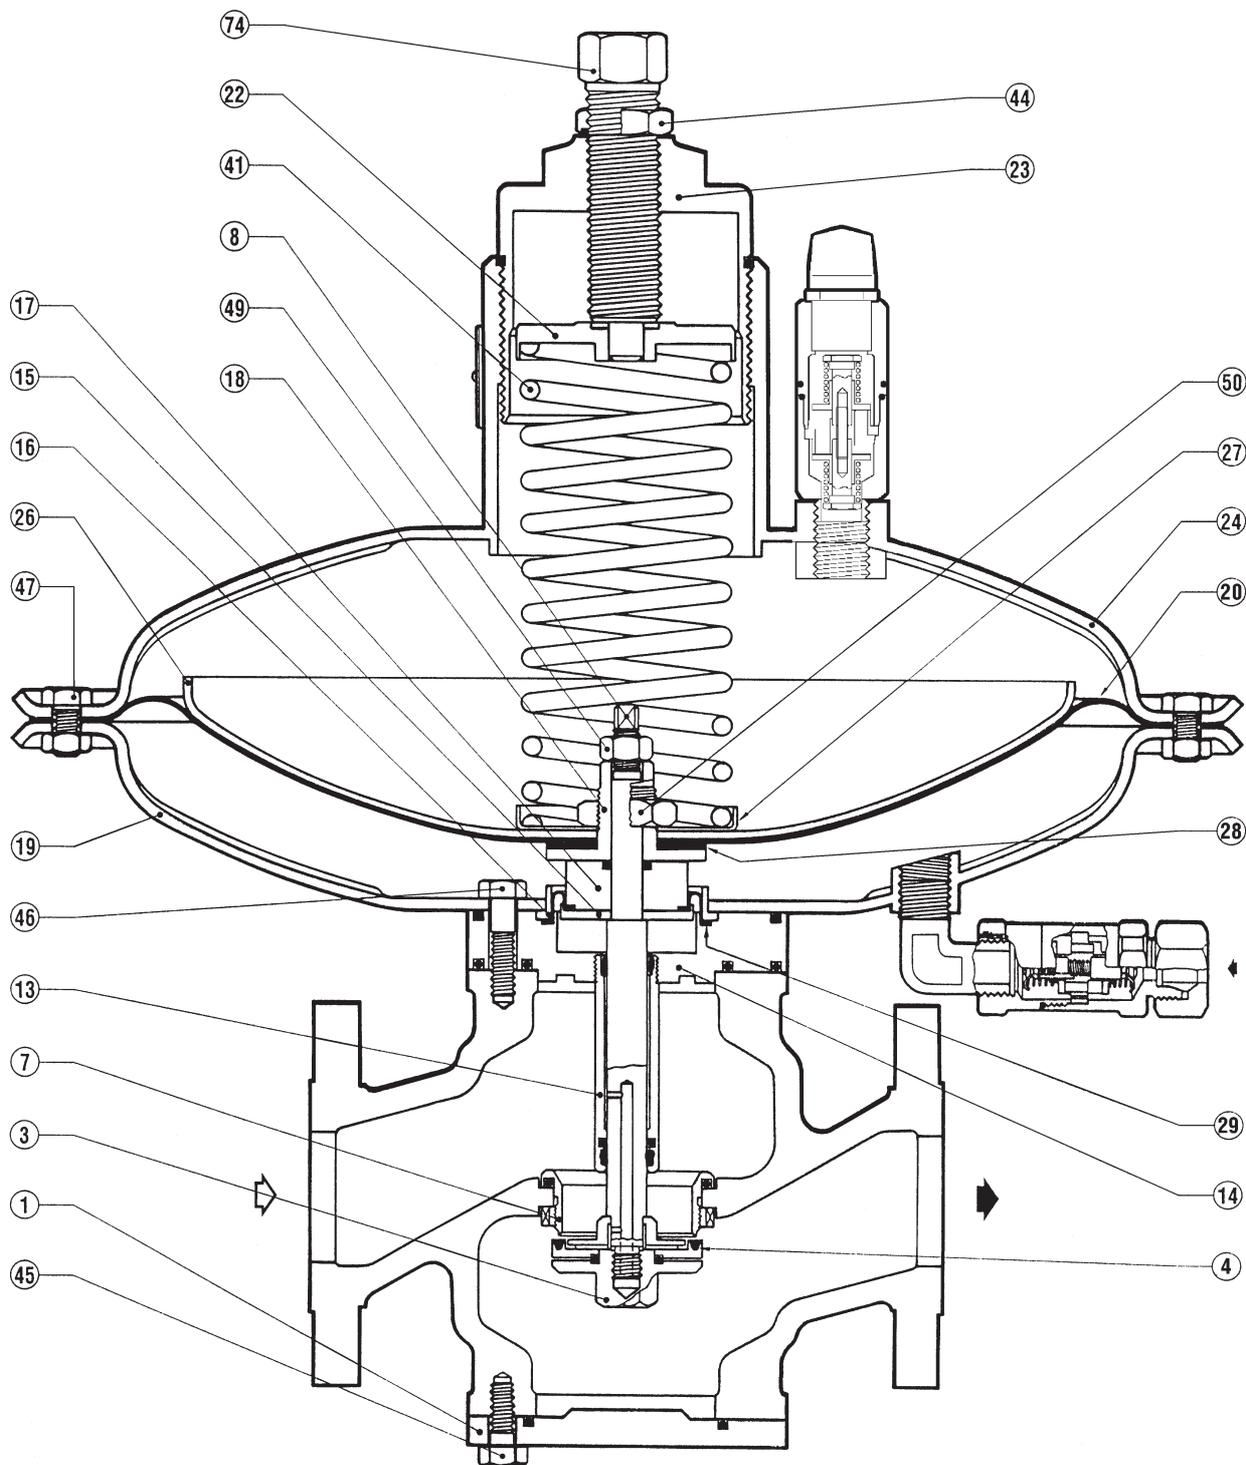

Fig. 17
6.1 TAB. 9 REGULATOR (FIG. 17)
(The positions refer to fig. 17)**